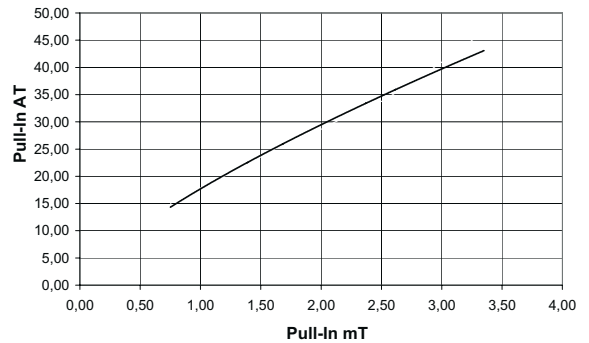

Figure 7. The Pull-In AT is presented with its corresponding mT Pull-In level for the following switches: KSK-1A52, KSK-1A53, KSK-1A84, and KSK-1A85.
4. You next look at Figure 7. where the AT and mT graphs presents the comparison you need for the KSK-1A85. But since you are cutting the Reed Switch to 30 mm you need to determine the percent increase expected. For a 20 AT Reed Switch being cut to 30 mm the percent increase is approximately 30% or 6 AT change (see Figure 3). This brings the AT of the switch up to 26 AT. Now, looking at Figure 3 you see 26 AT corresponds to about 1.7 mT.